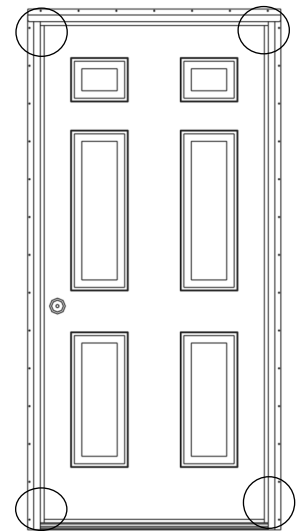

FIGURE 4
Install four (4) #8 x 1" wood attachment screws, one in each corner and check for proper fit of the unit (Figures 4, 4A). Refer to Step 11 if installing mounting screw cover.